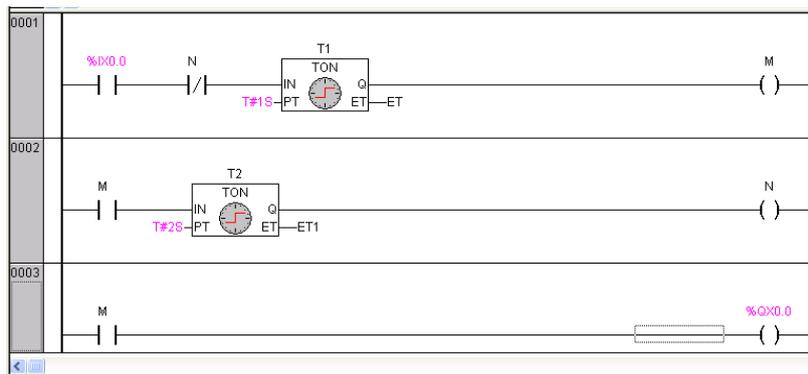

Figure 3-6-13 Programming Step (13)
- Add network 0003 to output the value of M from %QX0.0. Add a contact “M” in network 0003 and a coil after it. Click the “Coil” button on the tool bar and name the coil “%QX0.0”, as shown in figure 3-6-13.